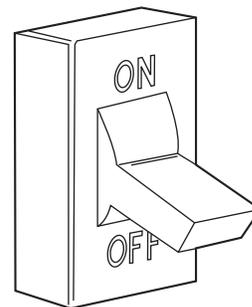

Fig. 18 – Turn Off Electrical Supply
- Turn off electrical supply to the furnace (see Fig. 18).